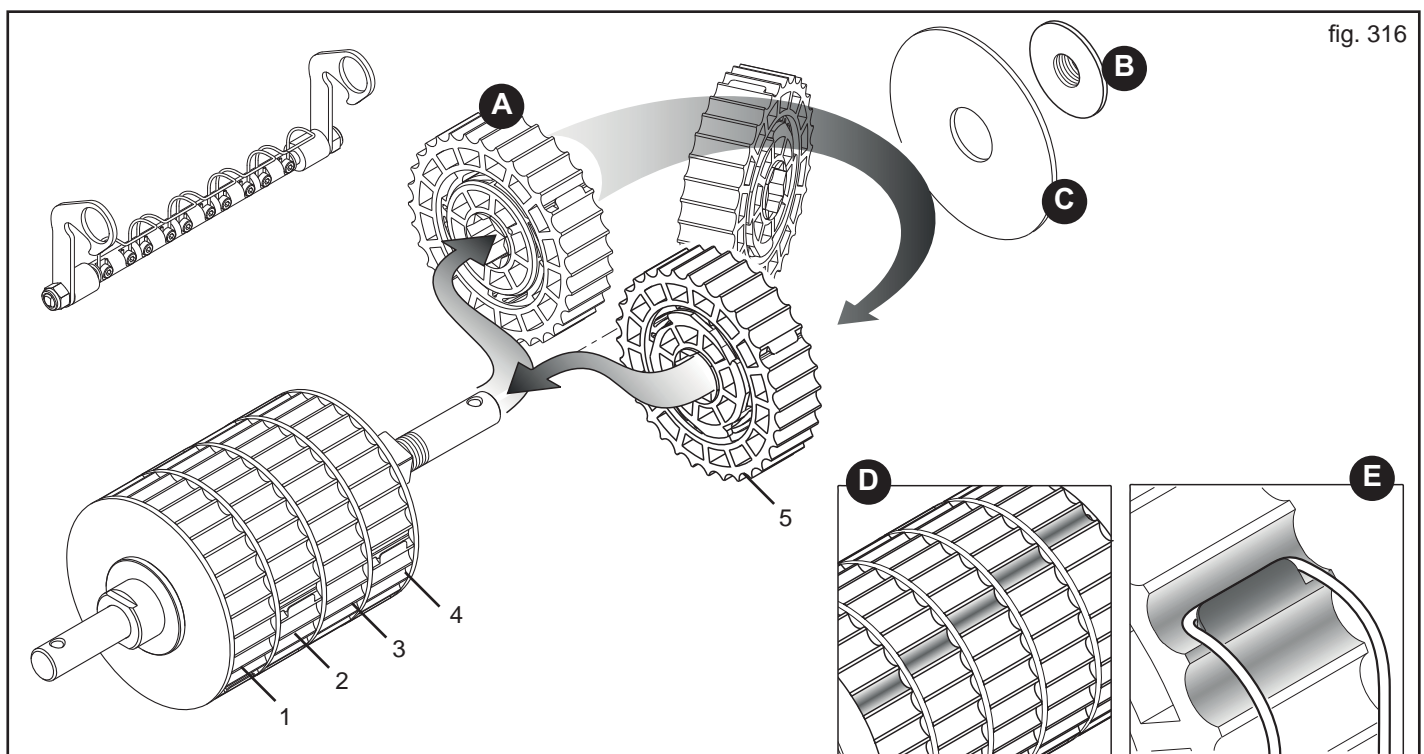

fig. 316
Considering that every section (A, Fig. 316) of the dosing roller distributes 20% of the product contained in roller itself, the number of operating sections can be increased and the gearbox rotation speed to reduce to obtain more homogeneous distribution.
First, take the dosing roller off the machine. Then, unscrew the knob (B, Fig. 316) using the supplied wrench and remove the lock nut (C). Extract the section(s) to be activated and put them back in **their positions** (1-2-3-4-5, Fig. 316) turning them by 180°.
When re-assembling the sections, make sure that during operation the dosing grooves of the active sections are staggered from one another (D, Fig. 316). This will give continuity to distribution.
Block the cleaning element in the operating position and make sure that the springs hook the previously excluded sections (E, Fig. 316) preventing their rotation and consequently distribution.